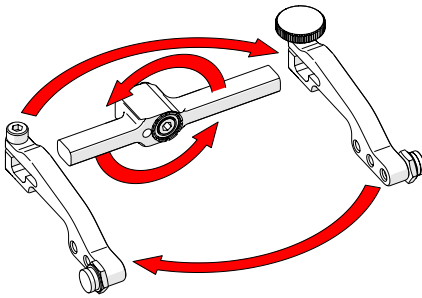

Fig. 107 - Flip yoke and reverse arms
4. Flip the yoke 180° and swap the probe holder arms (Fig. 107).